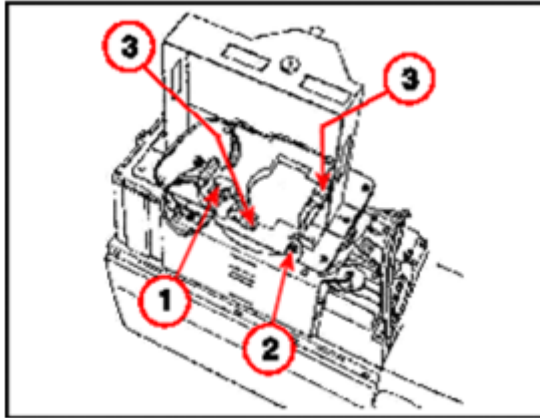

Fig. 1: I.I. attachment
- Set the excentrics (1/Fig. 1 / p. 9) and (2/Fig. 1 / p. 9) to the "zero position".
- Loosen the screws (3/Fig. 1 / p. 9) until the laser diodes can be turned in their holders.
- Retighten the screws (3/Fig. 1 / p. 9).